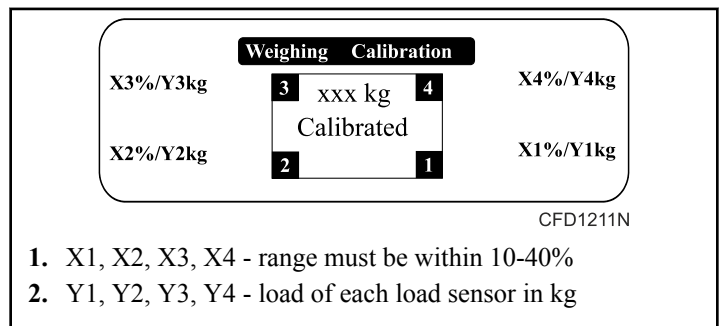

Figure 21
12. Check and, if necessary, adjust the height of the load sensor feet so that an even load distribution among all the load sensors is ensured. Refer to *Figure 21*.